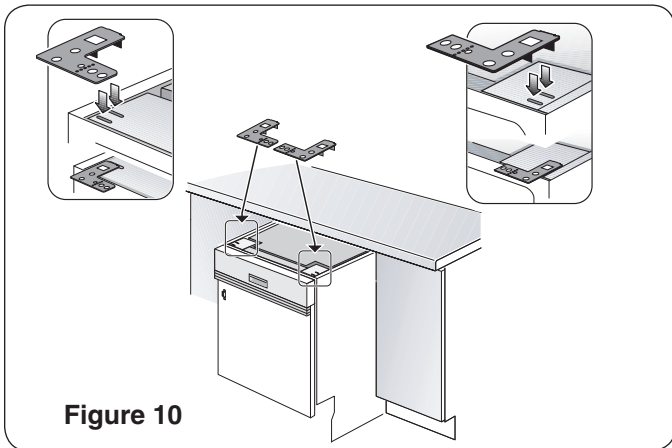

Figure 10
- 1 **Top Mount** is used for countertops made of wood or other materials that can easily drilled. Orient the mounting brackets as shown in **Figure 10**, and position the two small tabs on the mounting brackets over the two slots on the dishwasher's front corners. Push the mounting brackets down firmly to insert the tabs into the slots.